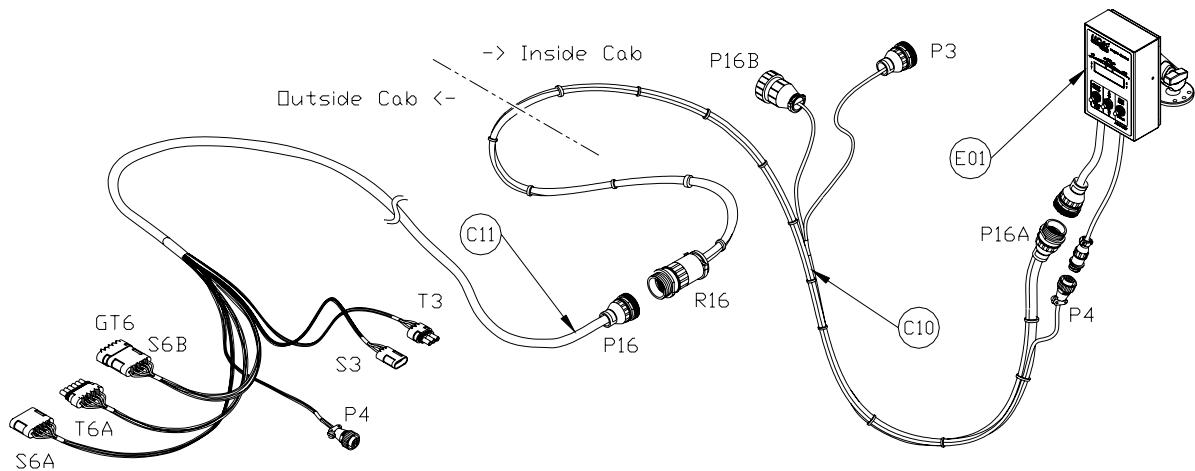

Figure 21 – Cable Configurations: C10 and C11
2. Connect the UC4+ power cable (**C10**) to the UC4+ Control Panel in the sprayer cab. Ensure that both plugs (**P16A** and **P4**) are connected to the receptacles of the panel (**Figure 21**).
5. Connect the 16-pin AMP plug (**P16**) of the valve extension cable (**C11**) to the free end (**R16**) of **C10** on the outside of the cab (**Figure 21**).